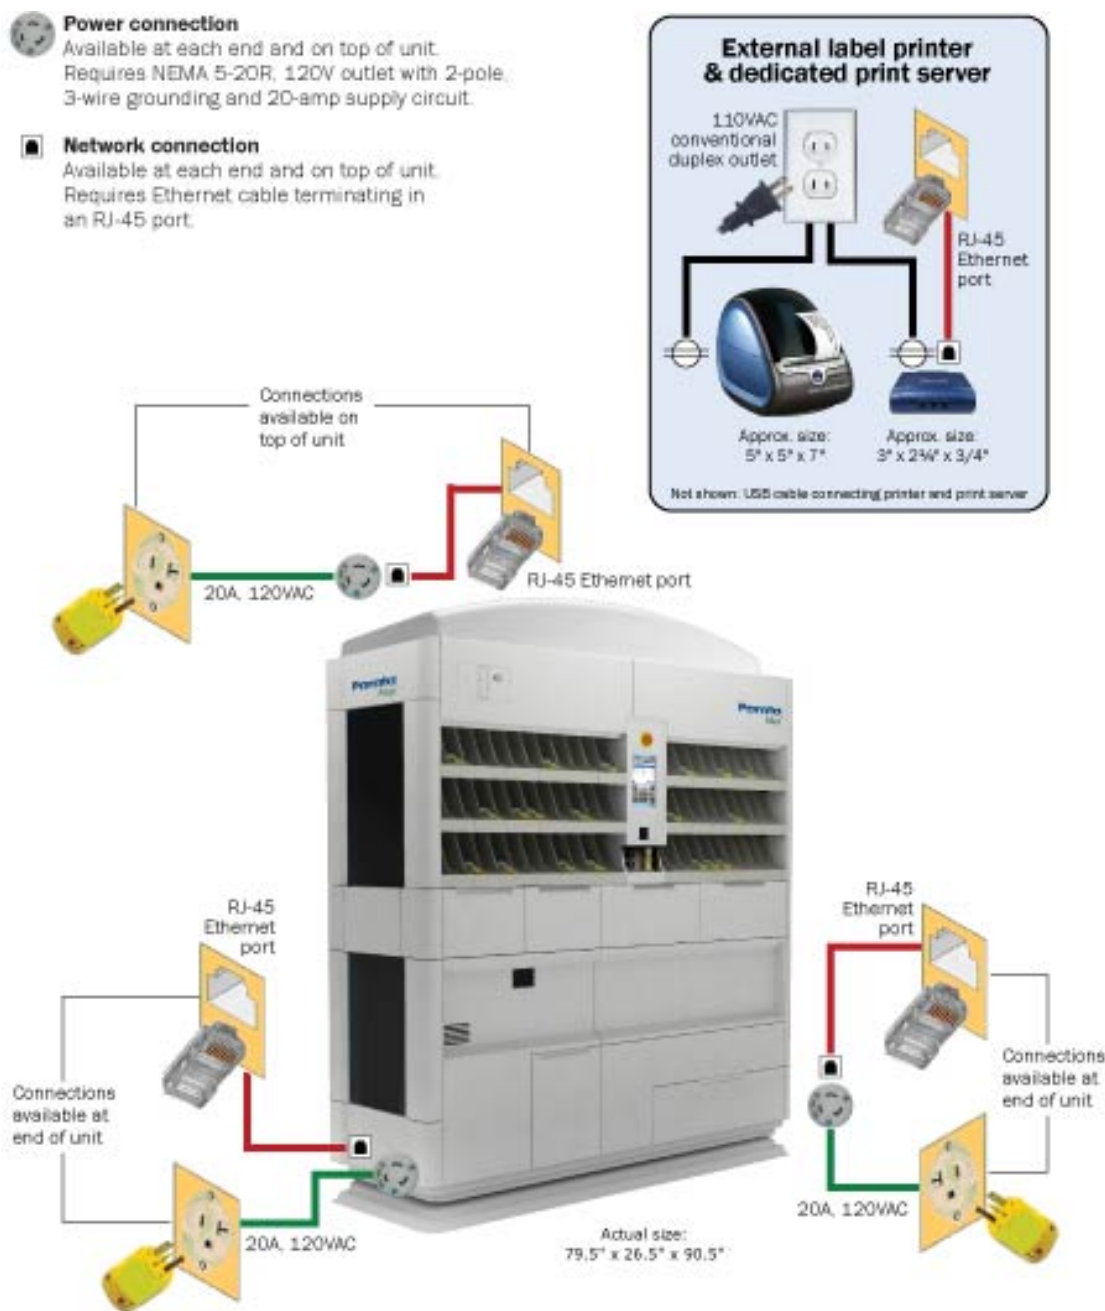

Figure 6: Type and location of connections on the Max.
- Circuit must terminate in a NEMA 5-20R receptacle; the receptacle can be located near the floor within 3' of either end of the Max, or in the ceiling above the unit. (See figure 6 on the next page.)
The RJ-45 jack can be located near the floor at either end of the Max or in the ceiling above the unit. (See figure 6 on the next page.)
As part of the Max installation process, a Parata-certified installer will set up the external printer and print server in a location you designate. The two devices can be located anywhere in your pharmacy, as long as the necessary power and network connections are available (see below and Figure 6 inset on previous page).